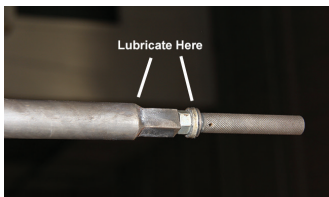

Figure 51
**5.0.6)** Add grease to the top of the insertion tool jam nut below the knurled handle (see Figure 51).
**5.0.9)** Add grease to the end of the insertion tool where the round shaft transitions to a chamfer (see Figure 51).